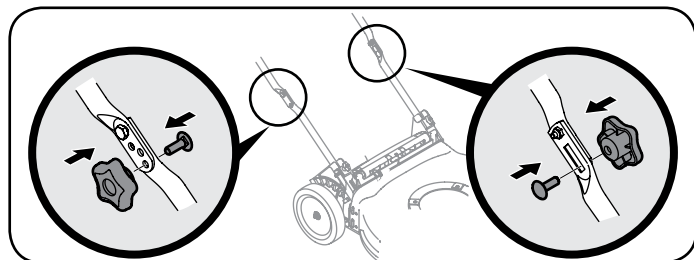

Figure 4
- a. Handles with Knob and Carriage Bolts - Reattach knobs and carriage bolts removed in Step 2a into lower holes of handle. See Figure 4.